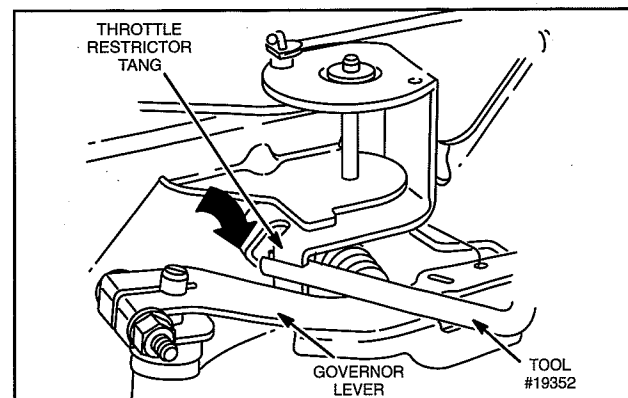

Fig. 22 – Adjusting Throttle Restrictor
3. Bend throttle restrictor tang so that tang just contacts governor lever, Fig. 22.